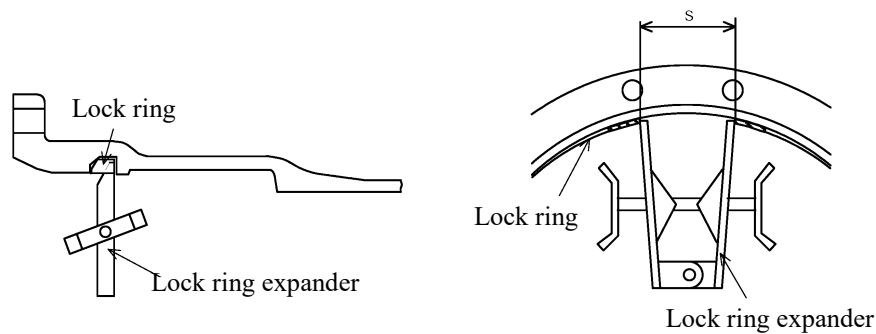

Figure-6 Installation of lock ring expander
- (2) Place the lock ring expander in the split portion. As illustrated in Figure-6, spread the lock ring with the lock ring expander to the dimension "s" (reference values) shown in Table-5.